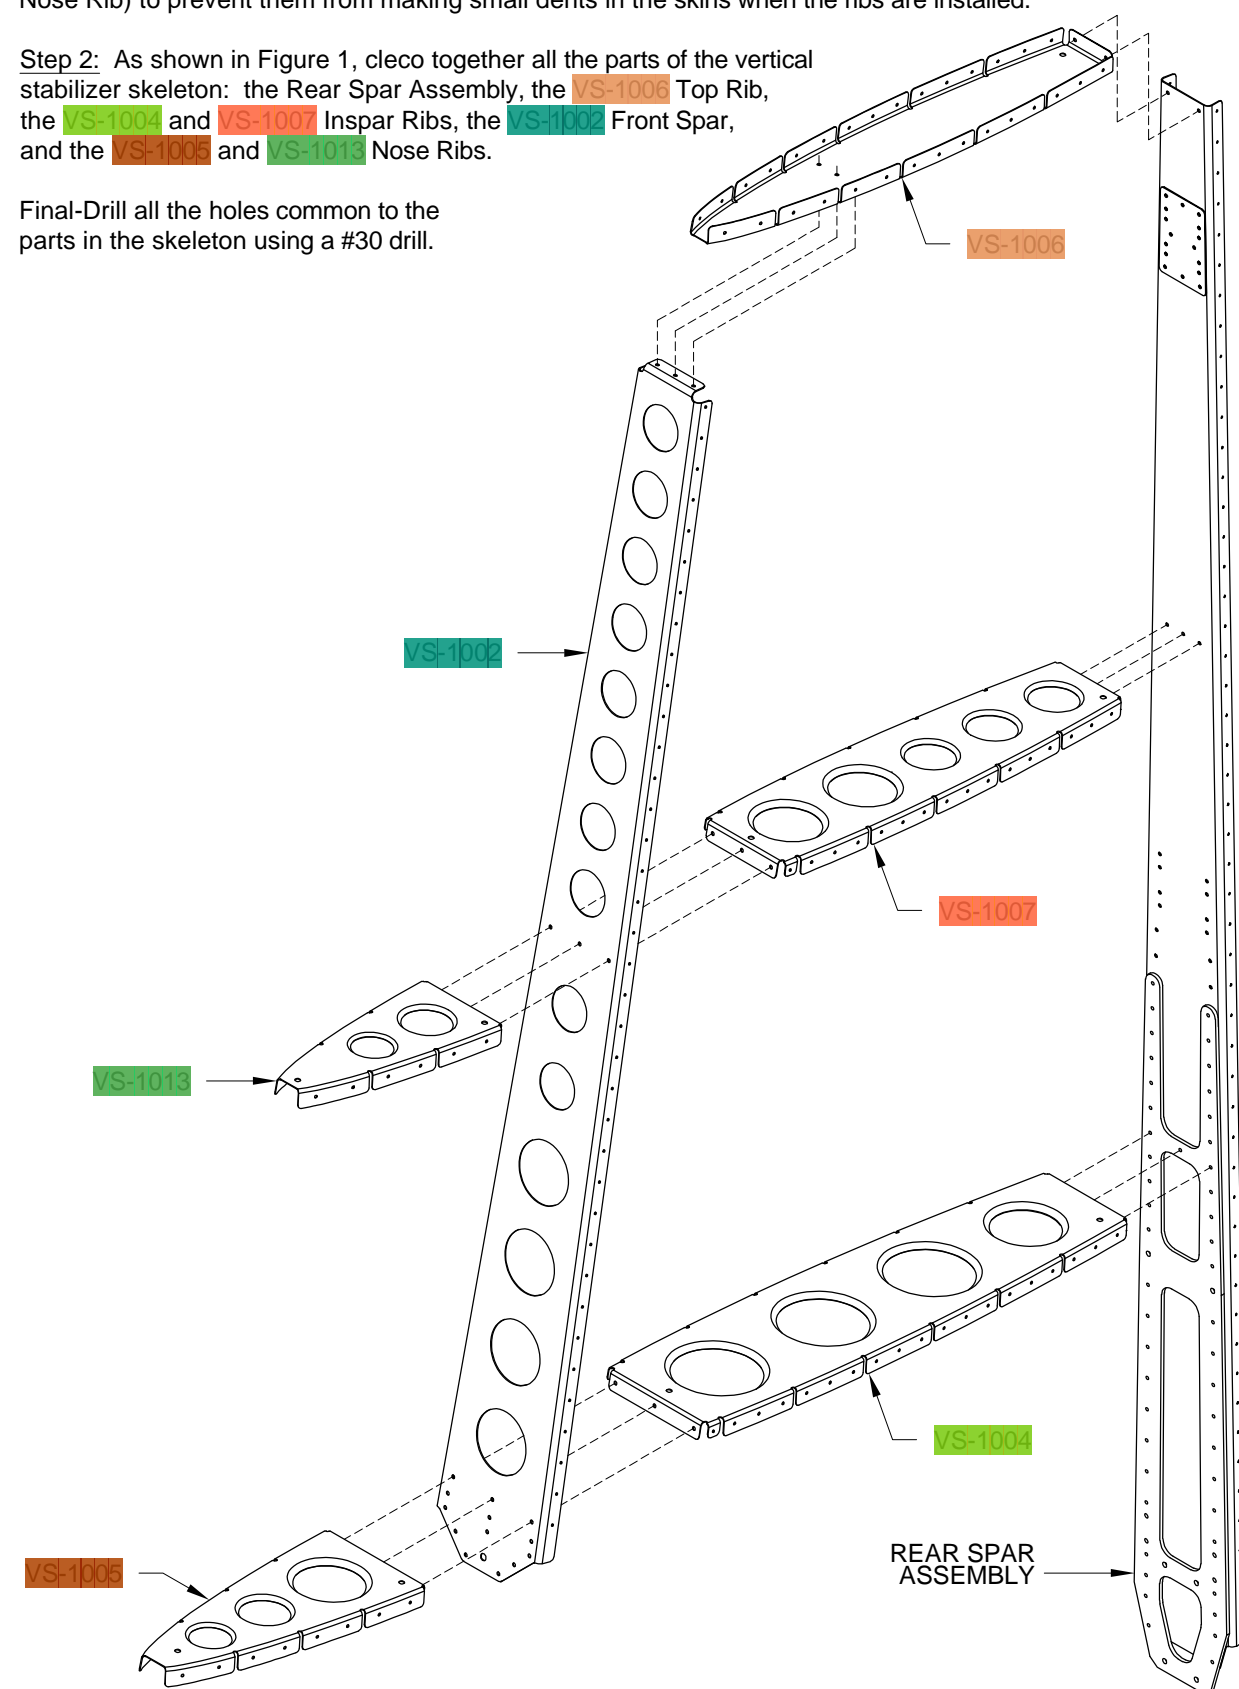

FIGURE 1: SKELETON ASSEMBLY
Step 2: As shown in Figure 1, cleco together all the parts of the vertical stabilizer skeleton: the Rear Spar Assembly, the VS-1006 Top Rib, the VS-1004 and VS-1007 Inspar Ribs, the VS-1003 Front Spar, and the VS-1005 and VS-1013 Nose Ribs.
Step 5: Empennage fairing screw holes are indicated on Page 6-6, Figure 1, along the bottom edge of the depicted skin. Mark the corresponding holes in the VS-1001 Vertical Stab Skin, and in the flanges of the VS-1005 Bottom Nose Rib, the VS-1004 Bottom Inspar Rib, and the VS-1003 Rear Spar.
Step 6: Dimple all the holes of the VS-1001 Vertical Stab Skin except for the following: the eight vertical stab tip fairing attachment holes at the top of the skin (see Page 6-6, Figure 1) and the holes just marked in Step 5. Depending on the vintage of your "C" frame tool, you may not be able to reach all of the holes to dimple. The unreachable holes can be dimpled with a pop rivet dimple die set available from tool suppliers.